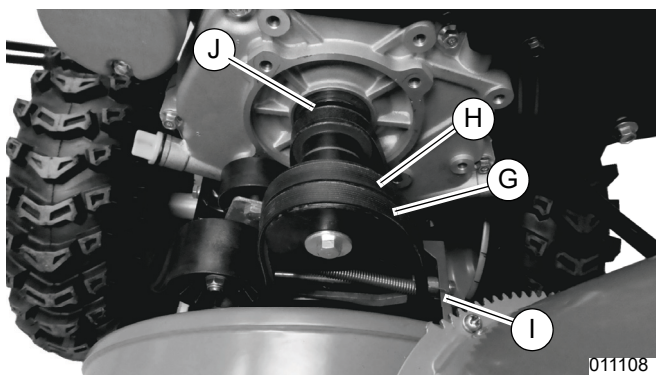

Figure 4-15. Engine Pulleys
4. See Figure 4-15. Roll front auger belt (G) off front of engine drive pulley (H) and rear auger belt (I) off the back of engine drive pulley.